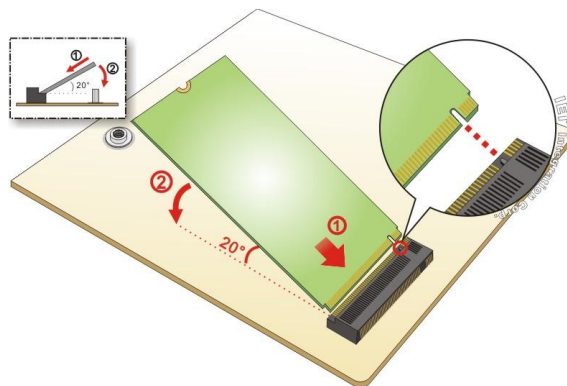

Figure 3-4: M.2 Module Installation
- Step 4:** Secure the M.2 module with the retention screw. Push the other end of the M.2 module down and secure the module with the previously removed retention screw. **(Figure 3-4)**